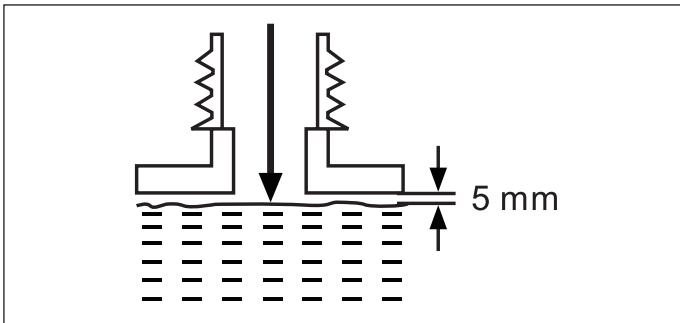

Fig. 9b
- c). Use a proper funnel with a filter to prevent debris entering the tank and to avoid spilling and overfilling the tank. Do not overfill and leave approximately 5 mm of space to the lower edge to allow the lubricant to expand. (See Fig. 9b)